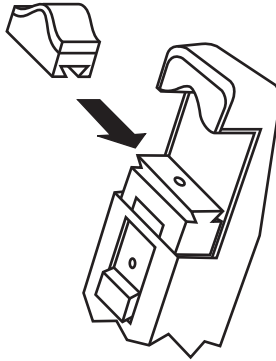

Figure 3-2. Slide the adapter into the FOLTI's mating slotted channel.
- (A) foam-covered, to accommodate 900- $\mu$ m buffered fiber
- (B) smooth-surfaced with foam perimeter, for use with ribbon fiber or a 250- $\mu$ m coated fiber
- (C) slotted, for 3-mm and optional 2-mm jacketed fiber (i.e., pigtails and jumpers) or loose-tube fiber
2. Select the appropriate adapter and slide it into the slotted channel of the FOLTI with slight downward pressure, as shown in Figure 3-2.